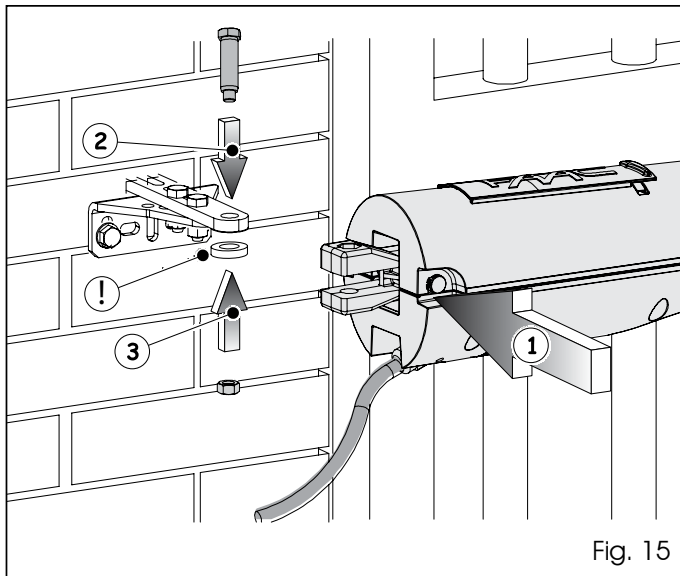

Fig. 15
6. Secure the operator to the rear bracket using the supplied bolt, as indicated in Fig. 15.